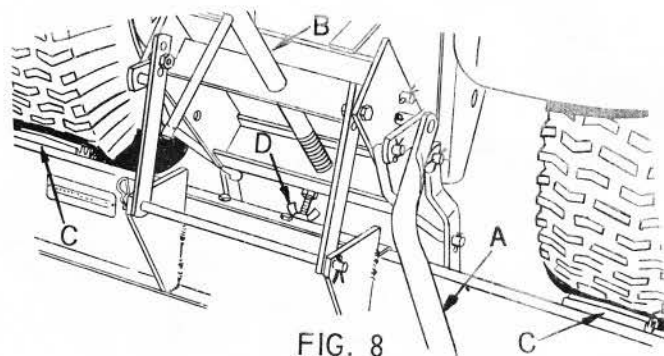

FIG. 8
1. Park tractor and sweeper on a flat surface (sidewalk, driveway, garage floor, etc.). Set sweeper in lowered position with drive rollers (C, Fig. 8), against tires.
1. Before you operate the sweeper, you should adjust the stop for tire-drive roller contact. This is the bolt with the wing nut (D, Fig. 8), located on the sweeper body between the lift arms.
2. The sweeper should be in the lowered position with the drive rollers (C, Fig. 8), against the tractor tires. Loosen the wing nut and turn the bolt in or out until the head of the bolt is about 1/8 inch away from the stop on the hitch. At this point, tighten the wing nut securely.
1. If the surface to be swept is uneven and the bottom of the catcher is dragging on the ground occasionally as the sweeper is operated, the rear of the catcher can be raised a small amount by attaching the lift links (G), in hole (I).
2. If the sweeper is mounted on your tractor and the catcher is at a fairly steep angle with the ground when the rollers are against the tractor tires, the catcher can be lowered a small amount by attaching the lift links (G), in hole (H).
3. If there is difficulty in obtaining enough roller-tire contact pressure on your tractor be sure that the contact stop bolt (D, Fig. 8, page 3), is turned in to allow 1/8" clearance between the head of the bolt and the stop. The rollers can be brought closer to the tractor tires by attaching the lift links (G), in hole (I).